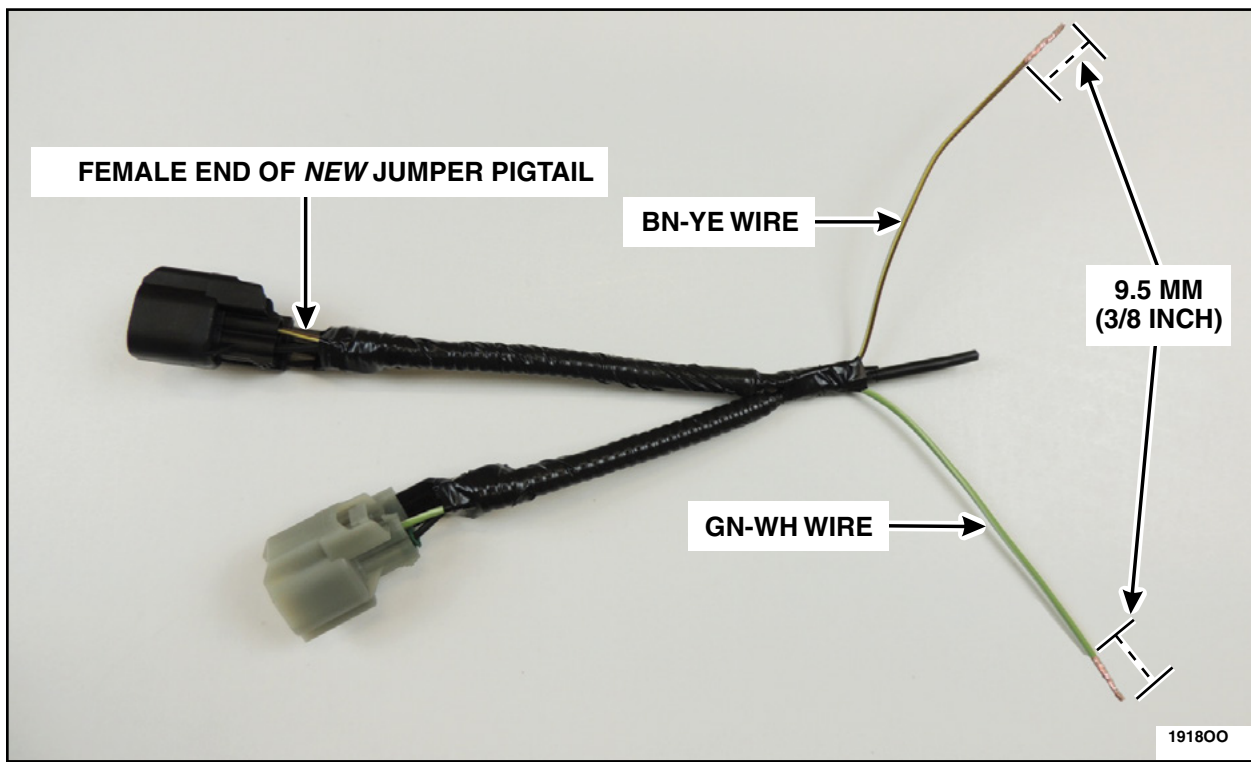

FIGURE 9
12. Strip 9.5 mm (3/8 in) of insulation from the GN-WH and BN-YE wires on the *new* jumper pigtail female connector end. See Figure 9.